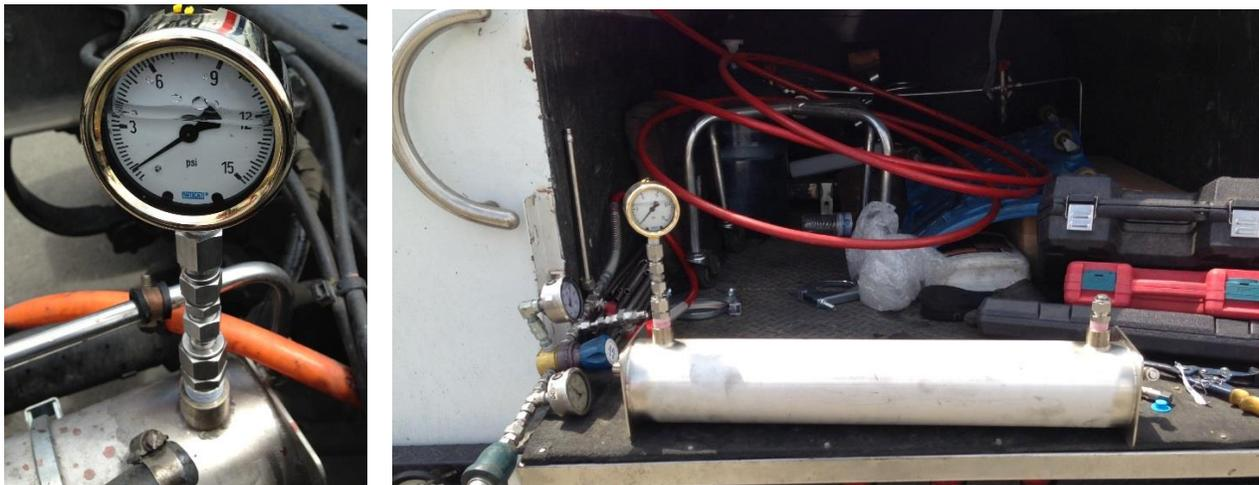

Figure 2. Heat exchanger test setup.
1. Assemble a gauge and fittings as shown in Figure 2, or build a similar test setup to suit the system under test. The gauge is a 15 psi unit.
7. Install the pressure gauge into one of the coolant ports as shown in Figure 2. Install a plug into the second coolant port.